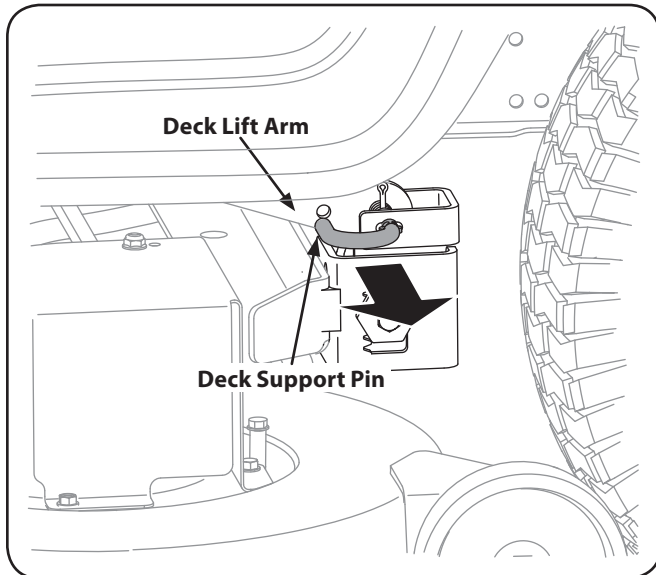

Figure 7-3
7. On 42" & 46" Decks: Looking at the cutting deck from the left side of the tractor, locate the deck support pin on the rear left side of the deck. Pull the deck support pin outward to release the deck from the deck lift arm. See Fig. 7-3.